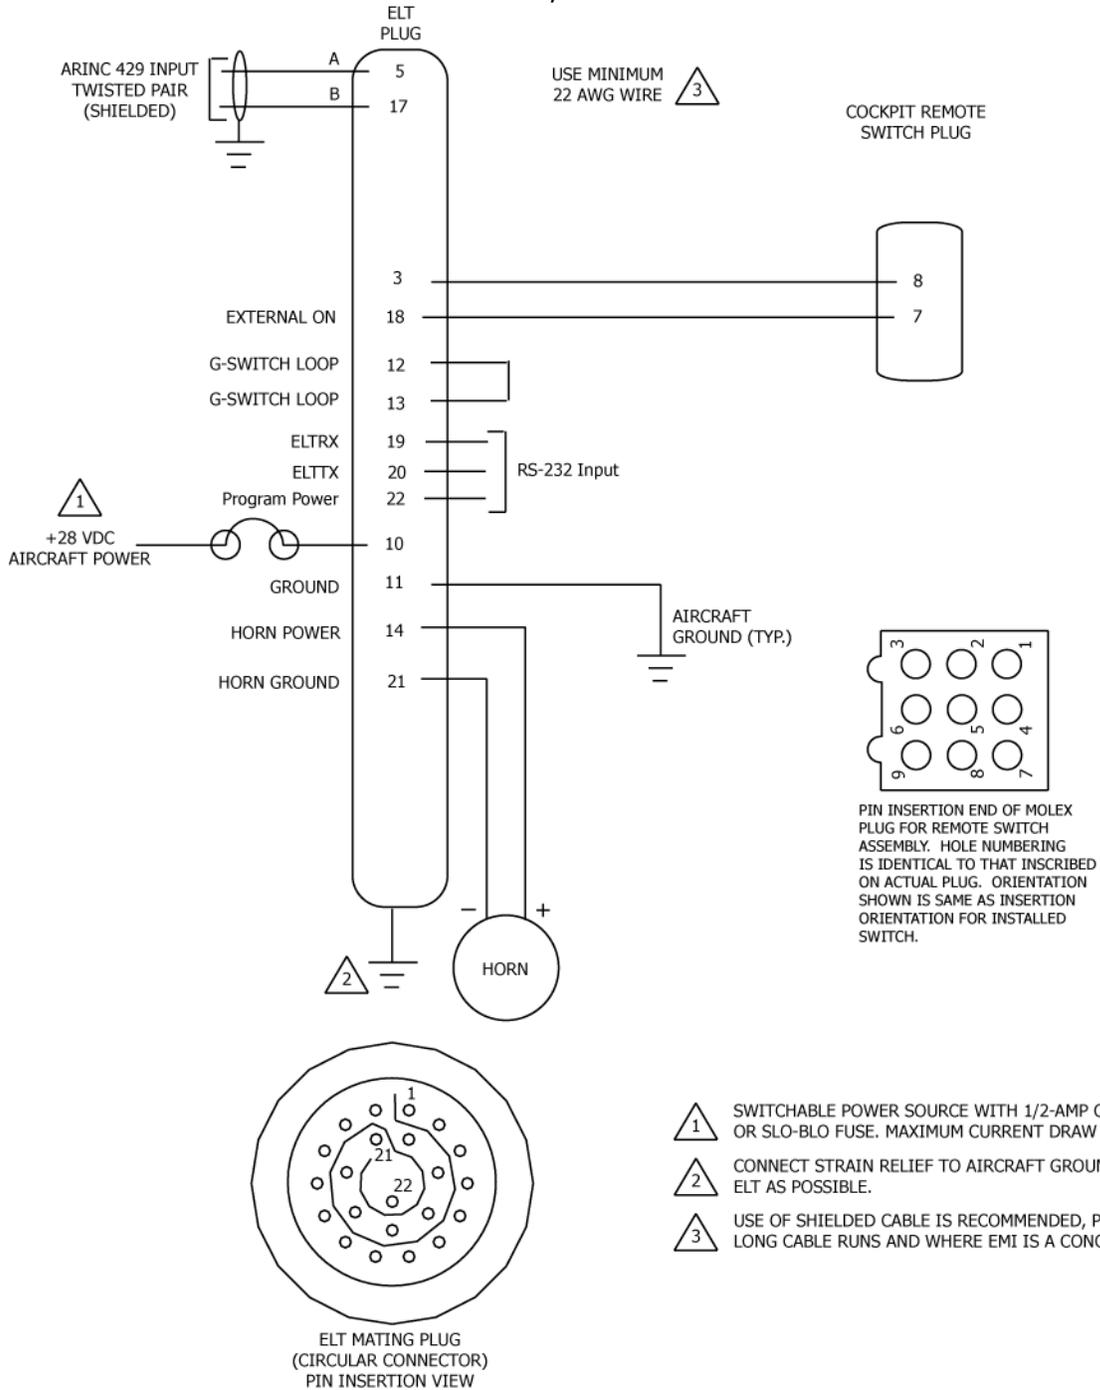

Figure 20 2-Wire Remote Switch Harness Wiring Diagram
- a) The Pin 11 ground wire. The wire running from Pin 11 to remote switch Pin 6 is terminated in the same pin, if this wire is required. See Figure 20. Make a note of the wire identification for later reference.